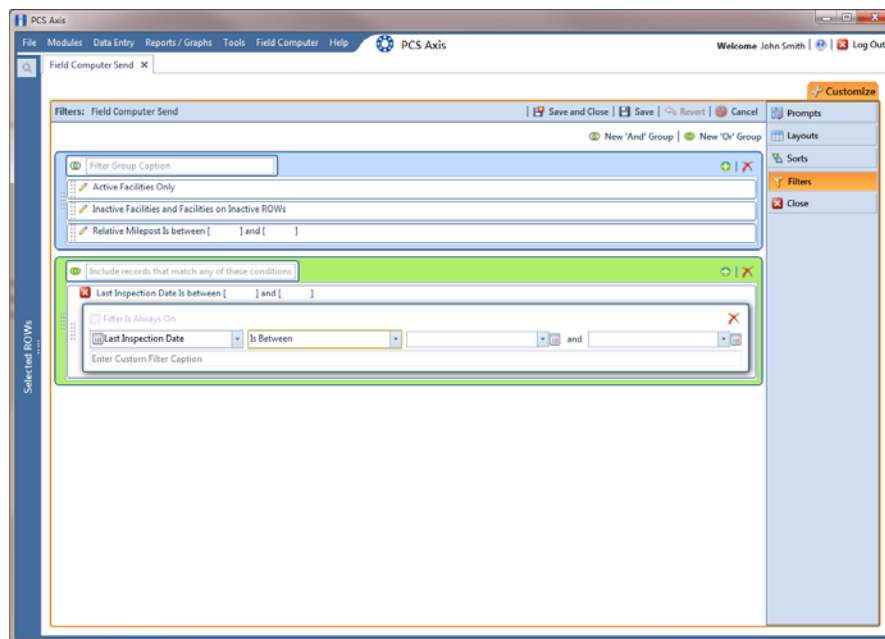

Figure 13-38. New 'Or' Filter Group
- 4 Click the **Customize** tab , then the **Filters** button  to open the *Filters* page (Figure 13-38, page 594).
- 5 Click  **New 'Or' Group** to open a filter properties group box (Figure 13-38).
- 8** If the OR filter group includes a date filter, such as *Facility Delinquent Date Is Between* shown in Figure 13-38, page 594, set a date range using a calendar or dynamic dates in the following manner: